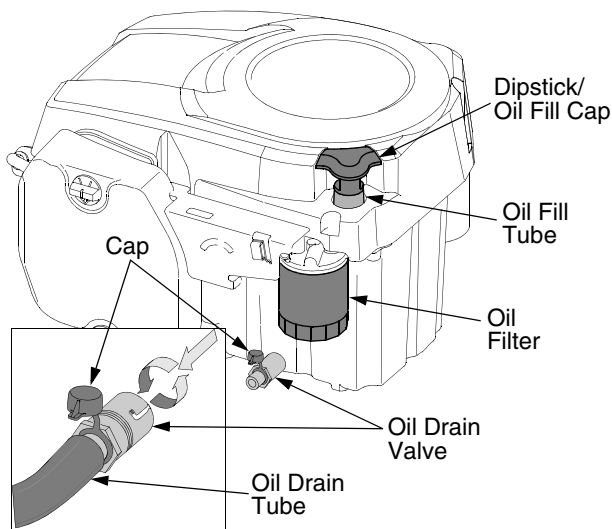

Figure 23
- Pull and remove the dipstick/fill cap and wipe the oil off. Reinsert the dipstick into the tube and push firmly into place. See Figure 23.
- Locate the oil drain valve on the right side of the engine. Pop open the protective cap on the end of the oil drain valve to expose the oil drain port. See Figure 23.
- Push the oil drain valve in slightly, then rotate counterclockwise and pull outward to begin draining oil. See Figure 23.
- Remove the oil filter using an automotive type oil filter wrench (Refer to Figure 23). Wipe the filter adapter with a clean cloth.